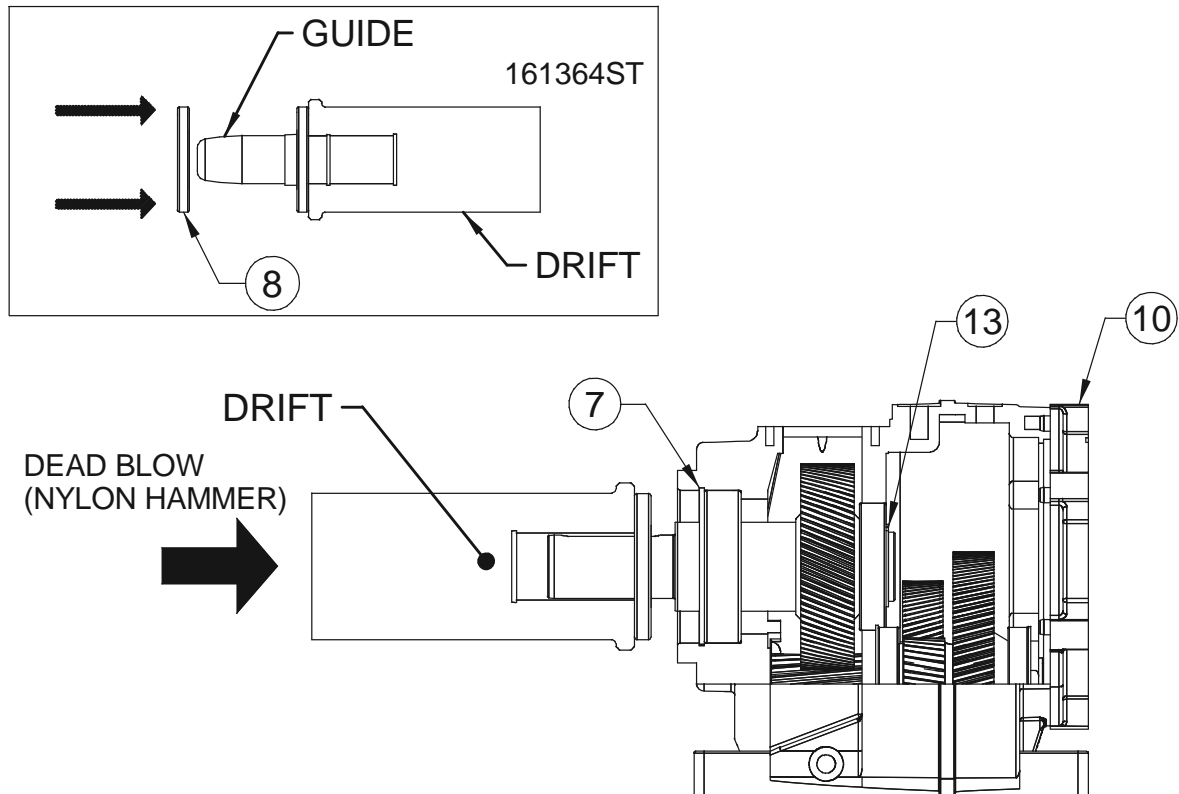

FIGURE 7.3C
7.3.7. Remove dolly and fit circlip (7) see figure 7.3C.
7.3.8. Remove gear unit from press fixture and with the unit horizontal fit circlip (13), see Figure 7.3C